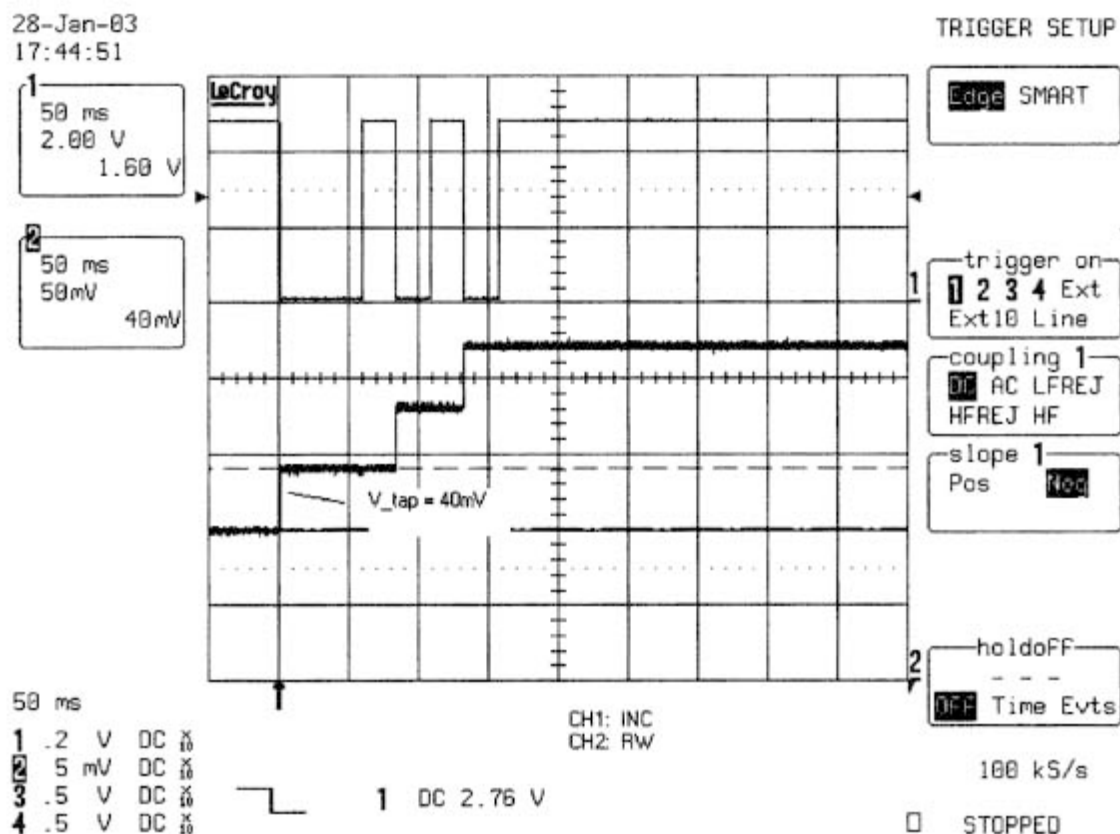

Figure 3. Wiper voltage advances one tap for every negative clock edge
- Press the INCR push button. The clock pulses applied to the \overline{INC} input of the DPP (CH1) and the wiper voltage (CH2) will be displayed on the oscilloscope screen. (Figure 3).